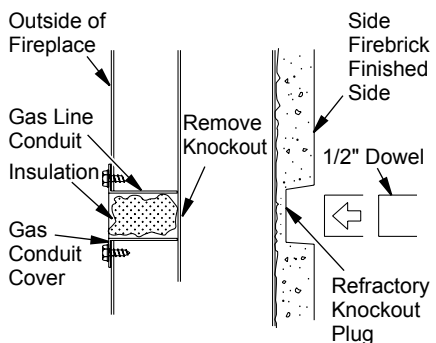

Figure 18 - Gas Line Knockout
1. Remove knockout indentation on refractory or firebrick wall located above refractory hearth floor. The knockout indentation must be firmly tapped with any solid object such as a 1/2" dowel until it is released. Remove fragmented portions of refractory (see Figure 18).